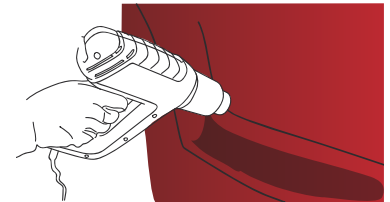

Figure 11
- ▶ Once this step is completed, heat all the hollow parts which have undergone heavy deformation to a temperature ranging from 80 °C to 90 °C (from 176 °F to 194 °F) to kill the shape memory of the film. (FIG. 11)